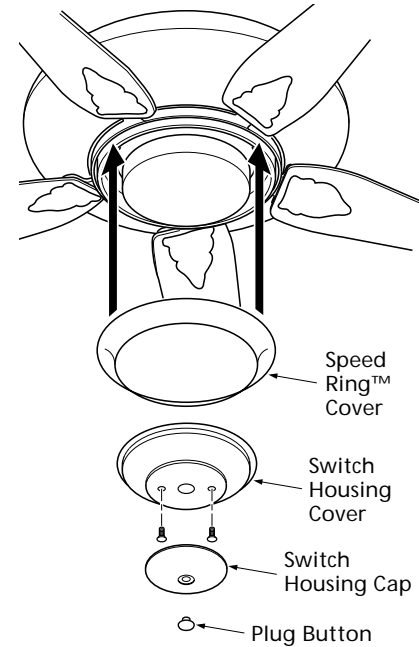

Figure 6e - Attaching Speed Ring™ Cover
1. Remove plug button as shown in Figure 6e.
2. Remove the switch housing cover and switch housing cap by removing the two screws as shown in Figure 6e. Do not discard the screws, cover, or cap.
3. Place the Speed Ring™ cover on top of the switch housing cover as shown in Figure 6e.